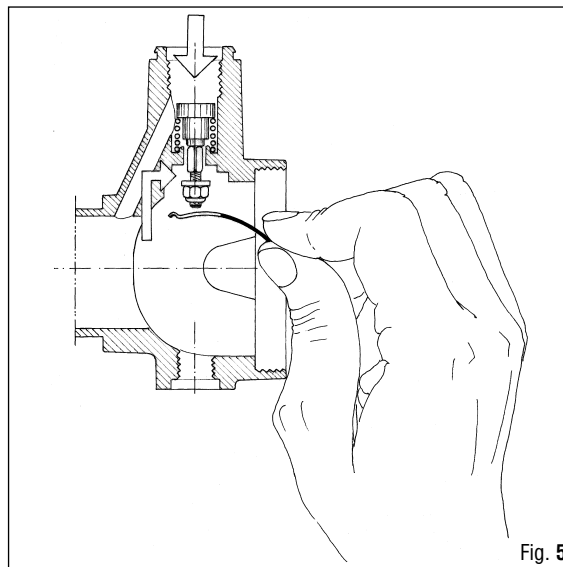

Fig. 5
- A. 4** Keeping the special tool (B-6) positioned inside the case assembly connector of the 2nd stage (32), insert the demand lever (35) between the washer (34) and the seat in the 2nd stage case, proceeding as shown in (Fig. 5).
- B. 6** Insert the demand lever (35) between the washer (34) and the seat in the 2nd stage case, proceeding as shown in the Figure. 5.